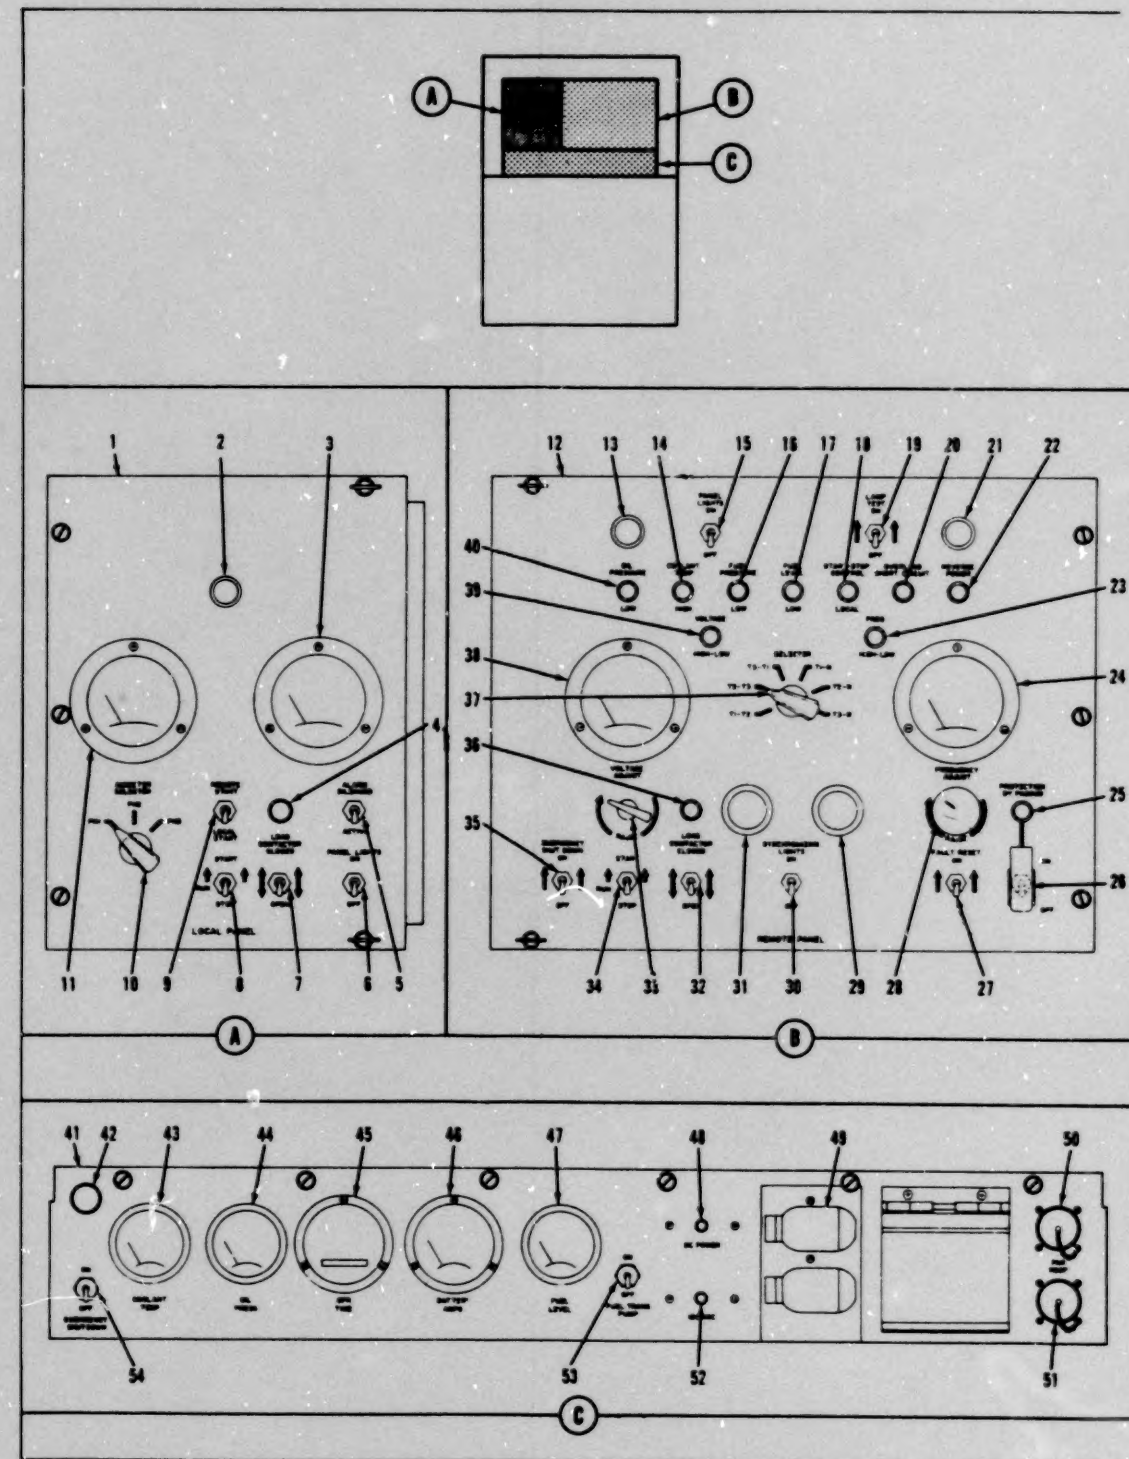

Fig 1-7. Location of controls and indicators.
Prior to beginning operation of the unit, you should become familiar with the functions and locations of the controls of the generator set. By using Table 1-3 and foldout figure 1-7, you should have no problem identifying the functions of the controls or indicators, and associating where the controls are located on the generator.
Local panel starting (numbers in parenthesis refer to figure 1-7). Just a word of caution before the starting procedure is described. Make sure that the frequency and voltage rheostats are turned counterclockwise before starting the generator set, because the engine governor is connected to the circuit and will cause the set to run fast to try and satisfy the demand placed on it by the rheostat. If the rheostat is set too high, the overspeed device will shut the engine down. Now, with this thought in mind, go through the starting procedure. Press in the d.c. circuit breaker button (48). Turn the remote/local start switch to LOCAL START. The local start/stop control indicator light (18) should light up. Turn the start/stop switches (8 and 34) to STOP and make sure all other switches are in the OFF or OPEN position. The fuel transfer pump switch (53) should be in the ON position if an auxiliary fuel supply is being utilized. Turn the frequency and voltage adjustment rheostats (28 and 33) counterclockwise. Turn the lamp test switch (19) to ON and check for illumination or indicator lights. If any fault indicator lights light up, turn the fault reset switch (27) to ON and then return it to the NORMAL position. All fault indicator lights should go out except the local start/stop control indicator light; if not, do not start the generator set.
Remote panel starting (numbers in parenthesis refer to figure 1-7). The same precautions apply to starting the generator set from the remote panel as those applied to starting the generator set from the local panel. In this case however, turn the remote/local start switch (9) to REMOTE START.